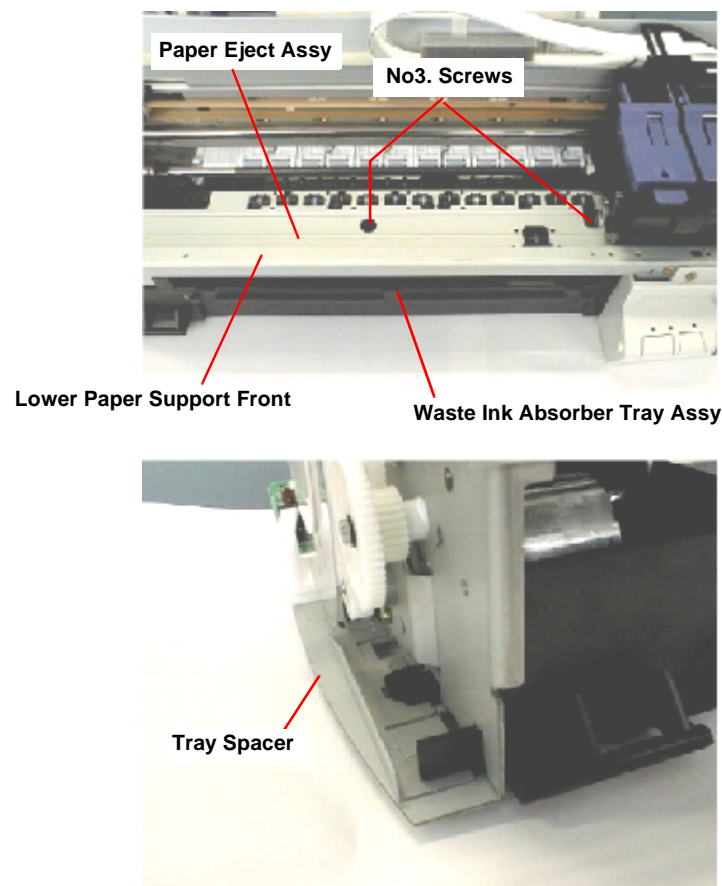

Figure 4-10. Removing two No.3 screws and Tray Spacer
- 4) Insert a screw driver through the center hole in the Paper Eject Assembly and remove one screw (No.3) securing the Lower Paper Support Front to the Waste Ink Absorber Tray Assembly. Refer to Figure 4-10.
- 5) Inserting a screw driver through the cutout, remove No. 3 screw* securing Waste Ink Absorber Tray Assembly to the right bottom part of the mechanism. Refer to Figure 4-10.
- 6) On the Left side of the printer mechanism, using tweezers or a small screw driver, carefully shift the Tray Spacer securing the Waste Ink Absorber Tray Assembly to left horizontally. Refer to Figure 4-10.